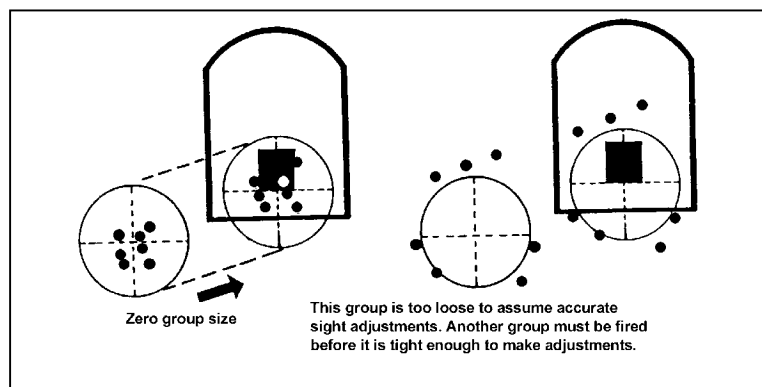

Figure 4-21. Zero group size.
(1) Counts the number of squares it will take to move the shot group to the aiming paster.
(2) Upon completion, returns to the firing line to make corrections to the weapon. (Figure 4-21 illustrates a zero group size on which adjustments can be made and a group that is too loose for adjustments [bipod mode].) If a group is too loose, the gunner checks his position and group.